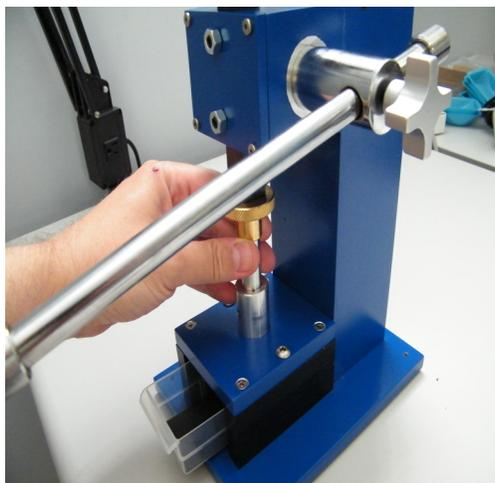

Figure 3: Removing AUC cell components with plunger
6. Holding the plunger in place with one hand, lower the shaft of the press by pulling the press handle toward the front of the tool. The shaft will contact the brass handle at the top of the plunger (see Figure 3).